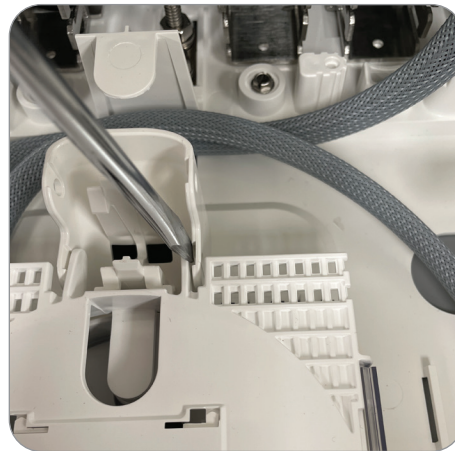

Figure 35
4. Remove the splice trays one at a time by hinging the splice tray at an angle and inserting a flathead screwdriver or other flat tool between one of the hinges to disengage (**Figure 35**). Set splice trays to the side until needed for splicing.